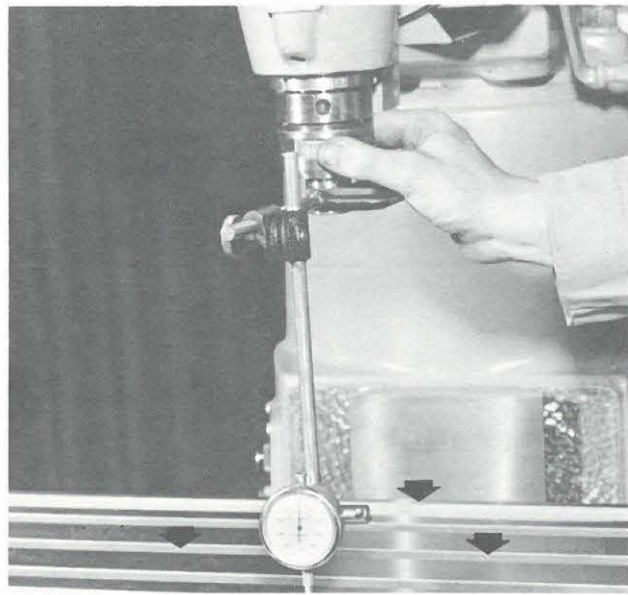

FIGURE 16A
3. After assembling, the spindle alignment with table should be checked. [See Figure 16A.] Tramming readings on a 10" diameter circle should be 0.000" at both sides and rear, but 0.001" at front. If readings are not 0.000" at